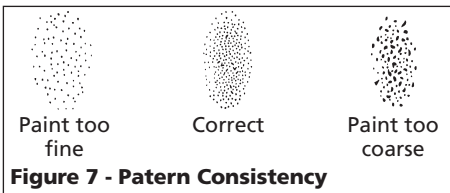

Figure 7 - Pattern Consistency
5. If the atomization is too coarse, reduce the tank pressure with the tank regulator. Trigger a short burst or open relief valve to relieve the pressure, then increase pressure slowly to obtain proper pattern consistency (See Figure 7).